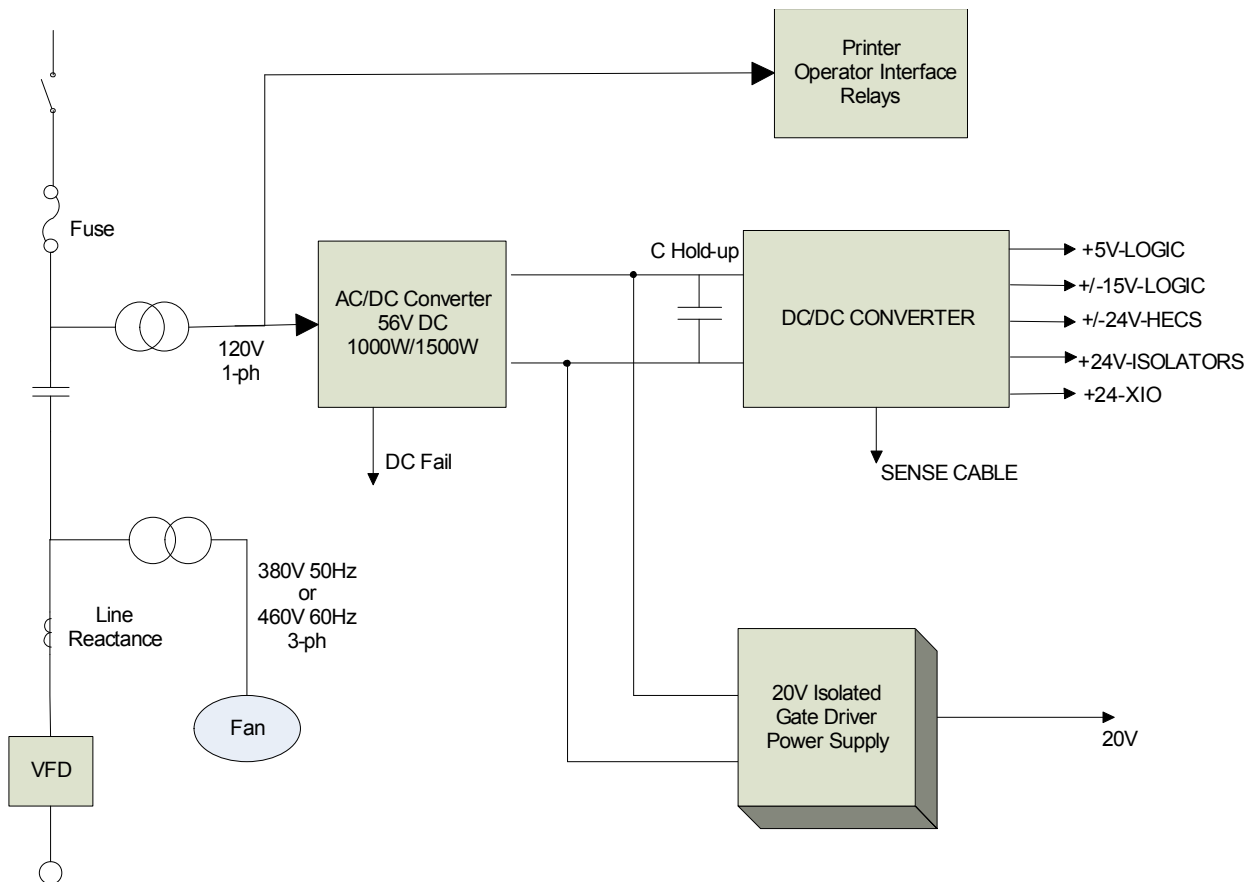

Figure 4.27 – AFE Rectifier with DTD DC Link (Configuration #1)
1. AFE Rectifier with DTD DC Link – Conf. #1 (refer to Figure 4.27)
Figure 4.27 illustrates the control power distribution for AFE drives with integral starter/line reactor.